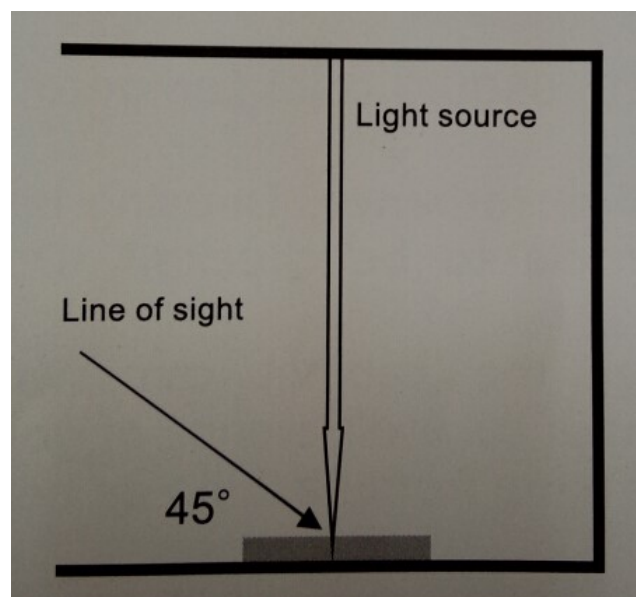

Figure 4.2
3.3.4 Place the product on the working platform, observe with light angle 90 °, 45 ° line of sight is better, shown in Figure 4.2.